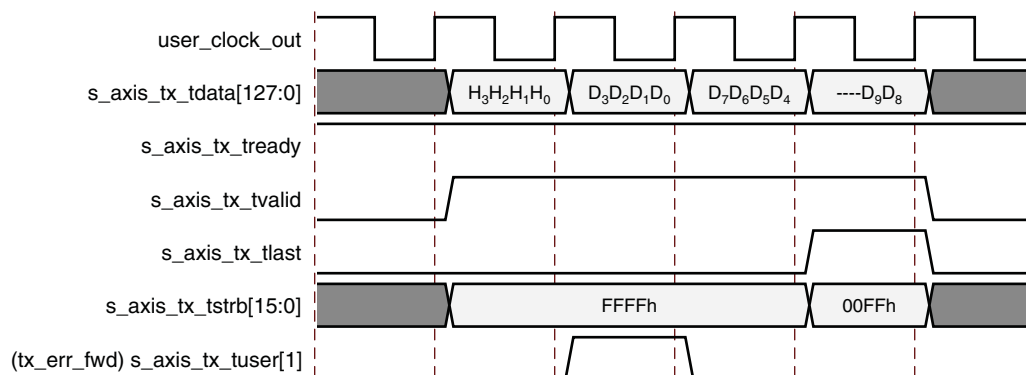

Figure 3-39: Packet Data Poisoning on the Transmit Interface
- Assert (tx\_err\_fwd) s\_axis\_tx\_tuser[1] for at least one valid data transfer cycle any time during the packet transmission, as shown in Figure 3-39. This causes the core to set EP = 1 in the TLP header when it transmits the packet onto the PCI Express fabric. This mechanism can be used if the User Application does not know whether a packet could be poisoned at the start of packet transmission. Use of tx\_err\_fwd is not supported for packets when (tx\_str) s\_axis\_tx\_tuser[2] is asserted (streamed transmit packets). In streaming mode, you can optionally discontinue the packet if it becomes corrupted. See Discontinuing Transmission of Transaction by Source, page 55 for details on discontinuing packets.